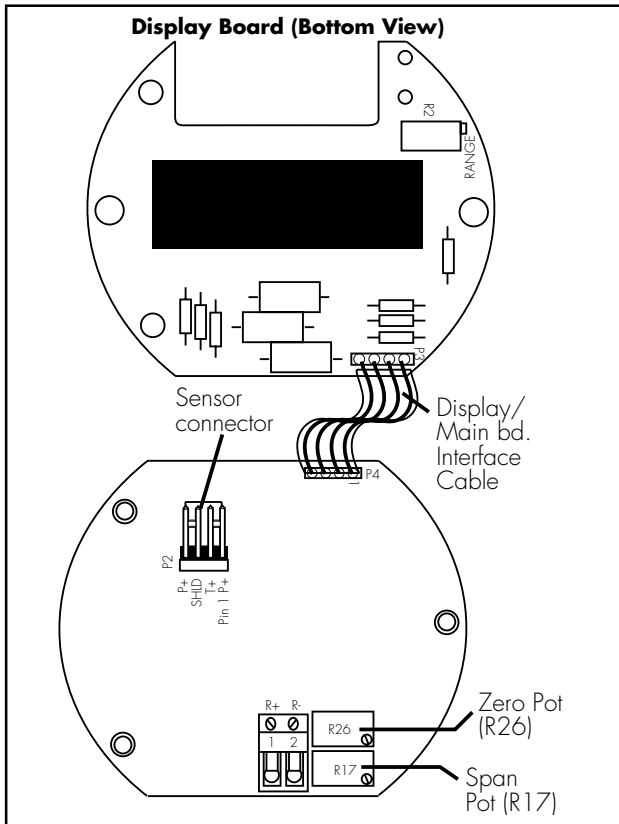

Figure 4
2. Plug the four conductor ribbon cable into the P4 connector, see Figure 4.